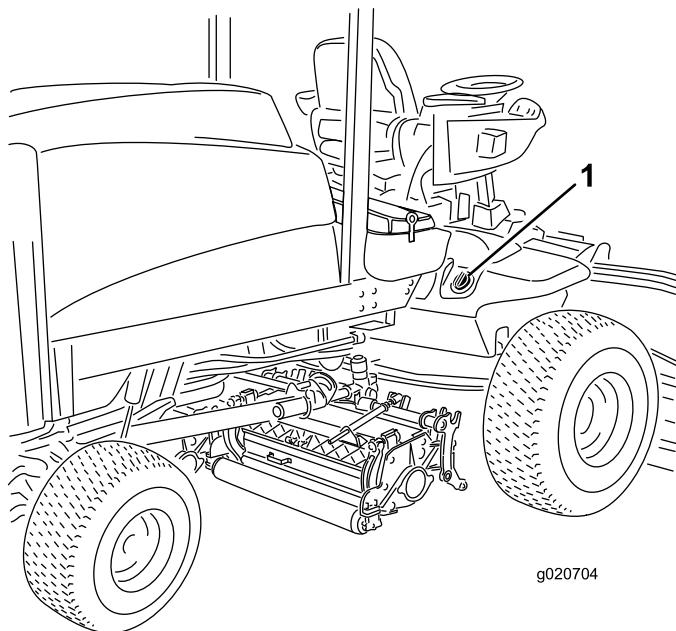

Figure 36
2. Clean the area around the filler neck and cap of the hydraulic tank (Figure 36).